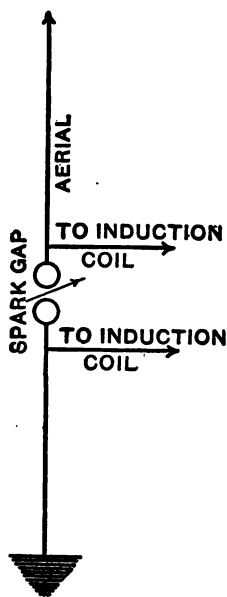

FIG. 161.—NON-TUNED OPEN OSCILLATION CIRCUIT.
**Open Oscillation Circuits.**—In wireless telegraphy the aerial wire system forms an *open oscillation circuit*. In a simple open oscillation circuit the spark-gap is formed between the ends of the aerial and ground wire as shown in Fig. 161. Since no tuning coil or condenser is used with this open oscillation circuit the *inductance* and *capacity* are laid evenly along the straight wires, and both the inductance and the capacity are, therefore, very small.
**Coupled Oscillation Circuits.**—Since an open oscillation circuit, such as is shown in Fig. 161, changes the electric oscilla-